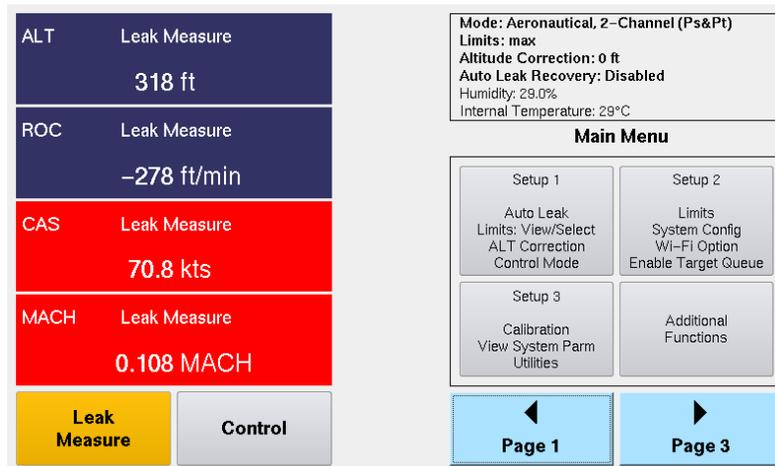

Figure F. 2 Main Menu, Page 2
- From the “Main Menu”, touch “Page 2”. A screen is displayed with 4 options (Fig. F. 2).